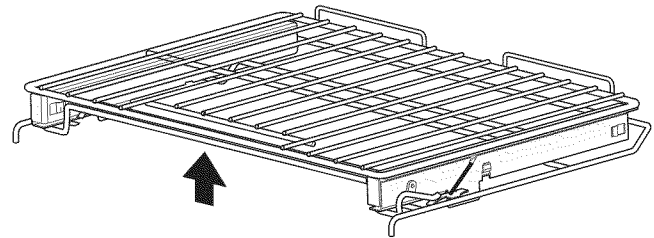

Figure 2 - Extensible glide rack with release lever in unlocked position
2. While holding up the release lever (see figure 2), pull the glide rack out of the oven until the stop position is reached, use two hands if necessary.